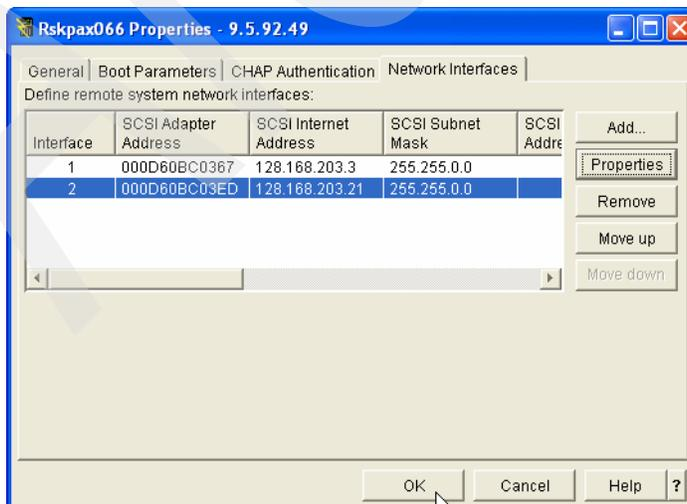

Figure 9-63 Adding a new remote system configuration iSCSI network interface - 2
9. After you have finished entering iSCSI network addressing information, click **OK**. You see the second iSCSI network interface added to the list of interfaces as shown in Figure 9-63.